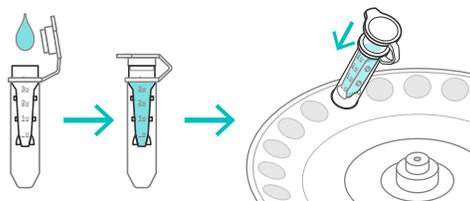

Figure 7. Orientation of the Amicon Ultra-0.5 mL Centrifugal Filter Unit
- The single-use tubes of X8 polymer and TCEP solution should be used only once and immediately after thawing to room temperature (RT). Avoid multiple freeze-thaw cycles.
- Make sure to place the flat white filter section so that it faces the cap strap, and place the cap strap so that it faces the center of the centrifuge rotor (see Figure 7).